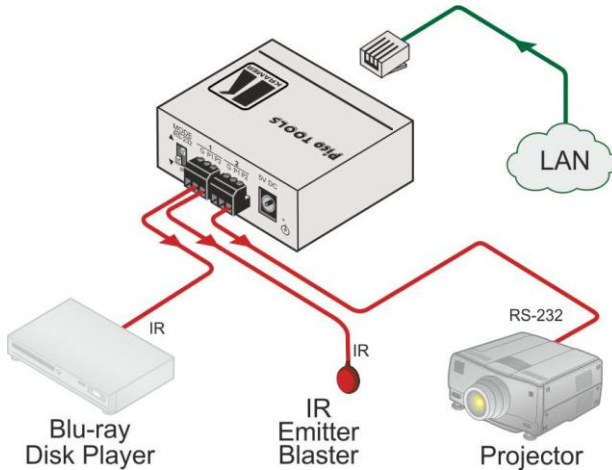

Figure 5: Connecting the FC-6 Ethernet Control Gateway
To connect the FC-6 as illustrated in the example in Figure 5:
4. Connect the device to a USB power port or to a USB power adapter or to an optional 5V DC power adapter and connect the power adapter to the mains electricity (not shown in Figure 5).